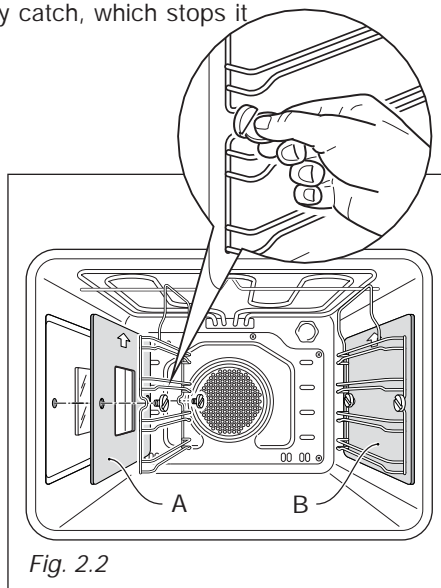

Fig. 2.2
- Assemble the wire racks to the oven walls using the 2 screws (Fig. 2.2).
- The catalytic panel **A** with the hole for the side oven lamp must be positioned on the left oven wall with the arrow up (fig. 2.2).
- Unscrewing the fixing screws and slide off the wire racks to the oven wall as in fig. 2.2.
- Screw the side rack onto the oven wall (Figs. 2.2 - 2.5).